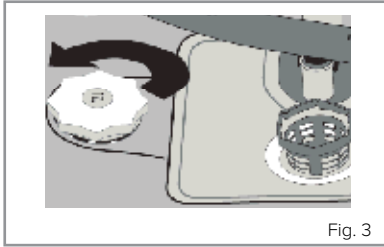

Fig. 3
1. Remove the lower dishwasher basket and then unscrew the salt compartment cap, as shown in figure 3.